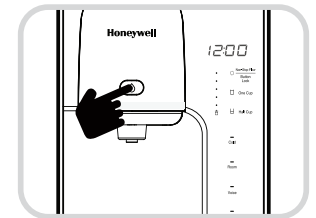

Fig. 20
2. After the unit is in the User Setting mode, press the Out Flow button. (Fig. 20).